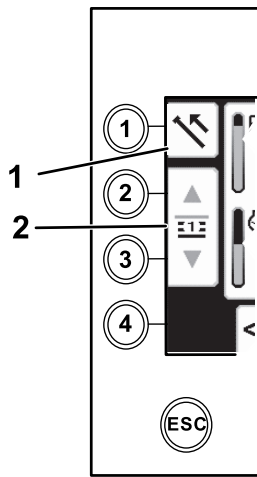

Figure 7
1. Push button 1 to select the pull pipe option (Figure 7).
2. Push buttons 2 and 3 to select the row where you want to place the pipe (Figure 7).